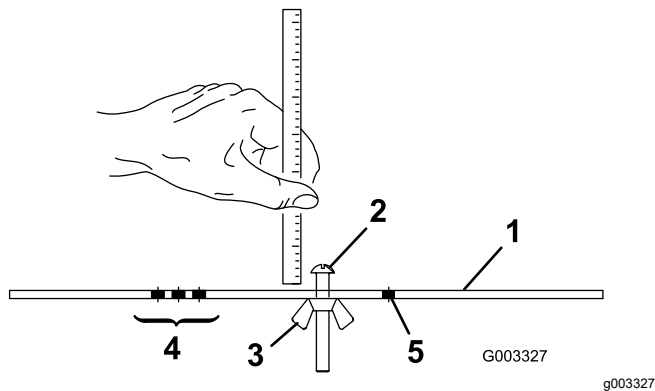

Figure 16
2. Loosen the nut on the gauge bar (Figure 16) and set the adjusting bolt to the desired height of cut.